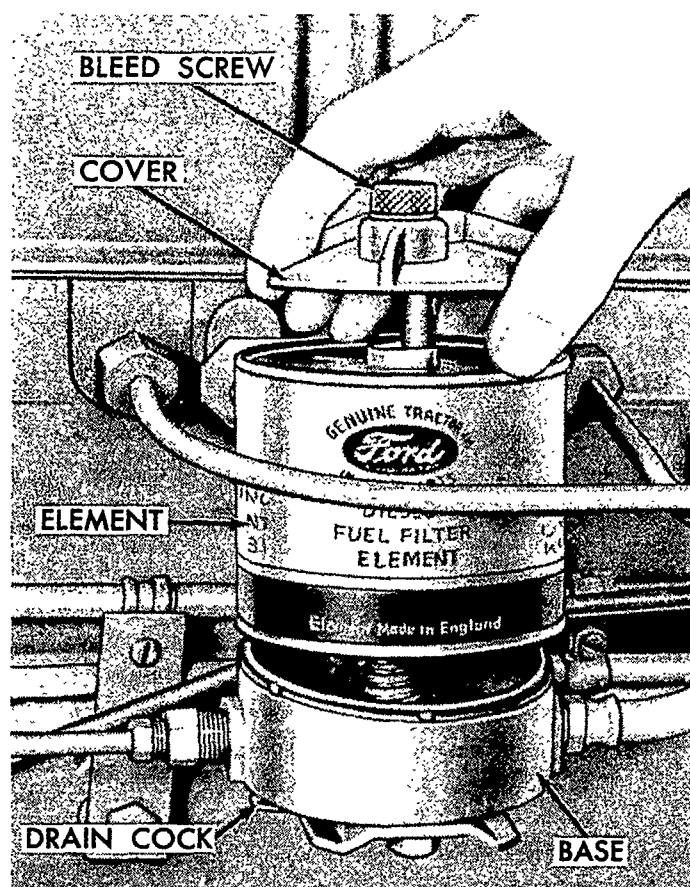

Figure 4—Servicing the Fuel Filter Element
2. Open the drain cock at the bottom of the fuel filter base, Figure 4. Close the drain cock when the fuel begins to flow.
3. Remove the cover assembly and filter element by turning the cover counterclockwise, Figure 4.